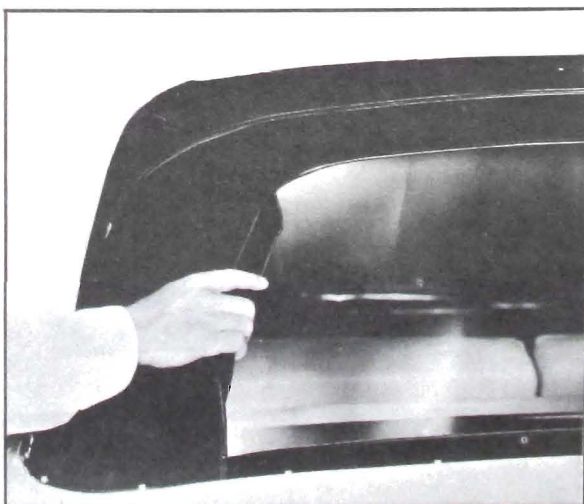

Figure 7-15—Tuck in Flaps
2. On outside of car after window has been raised, tuck top flaps into valance along right and left side of window opening (Figure 7-15).